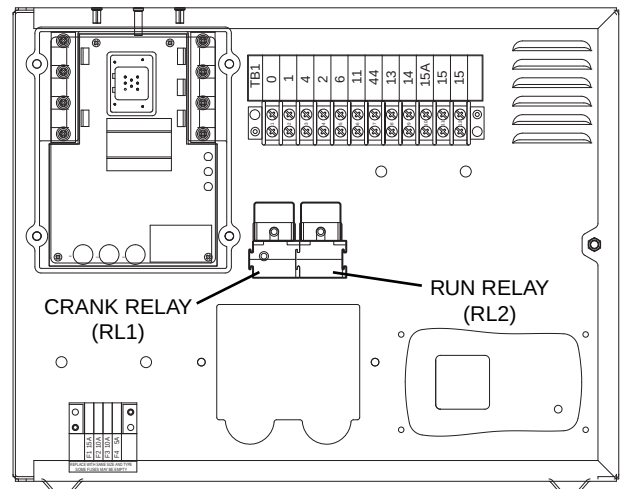

Figure 19. Engine Run Relay Location
1. Locate the Engine Run Relay (RL2 BLACK), it is located in the back of the control panel in the center. See Figure 19.